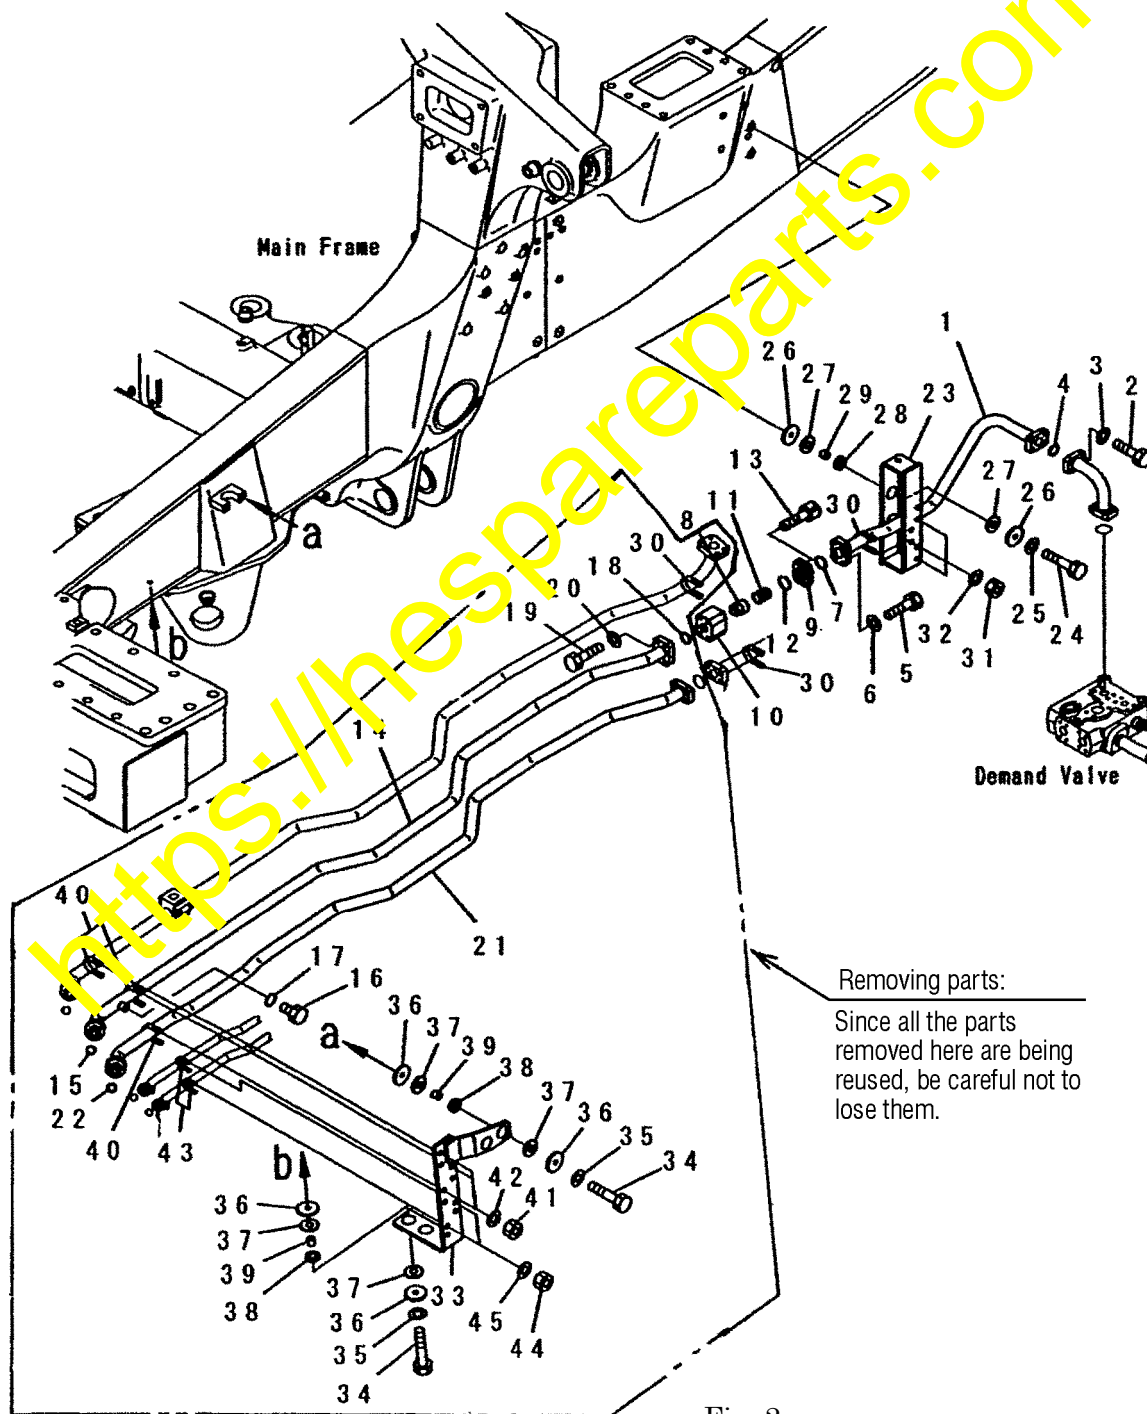
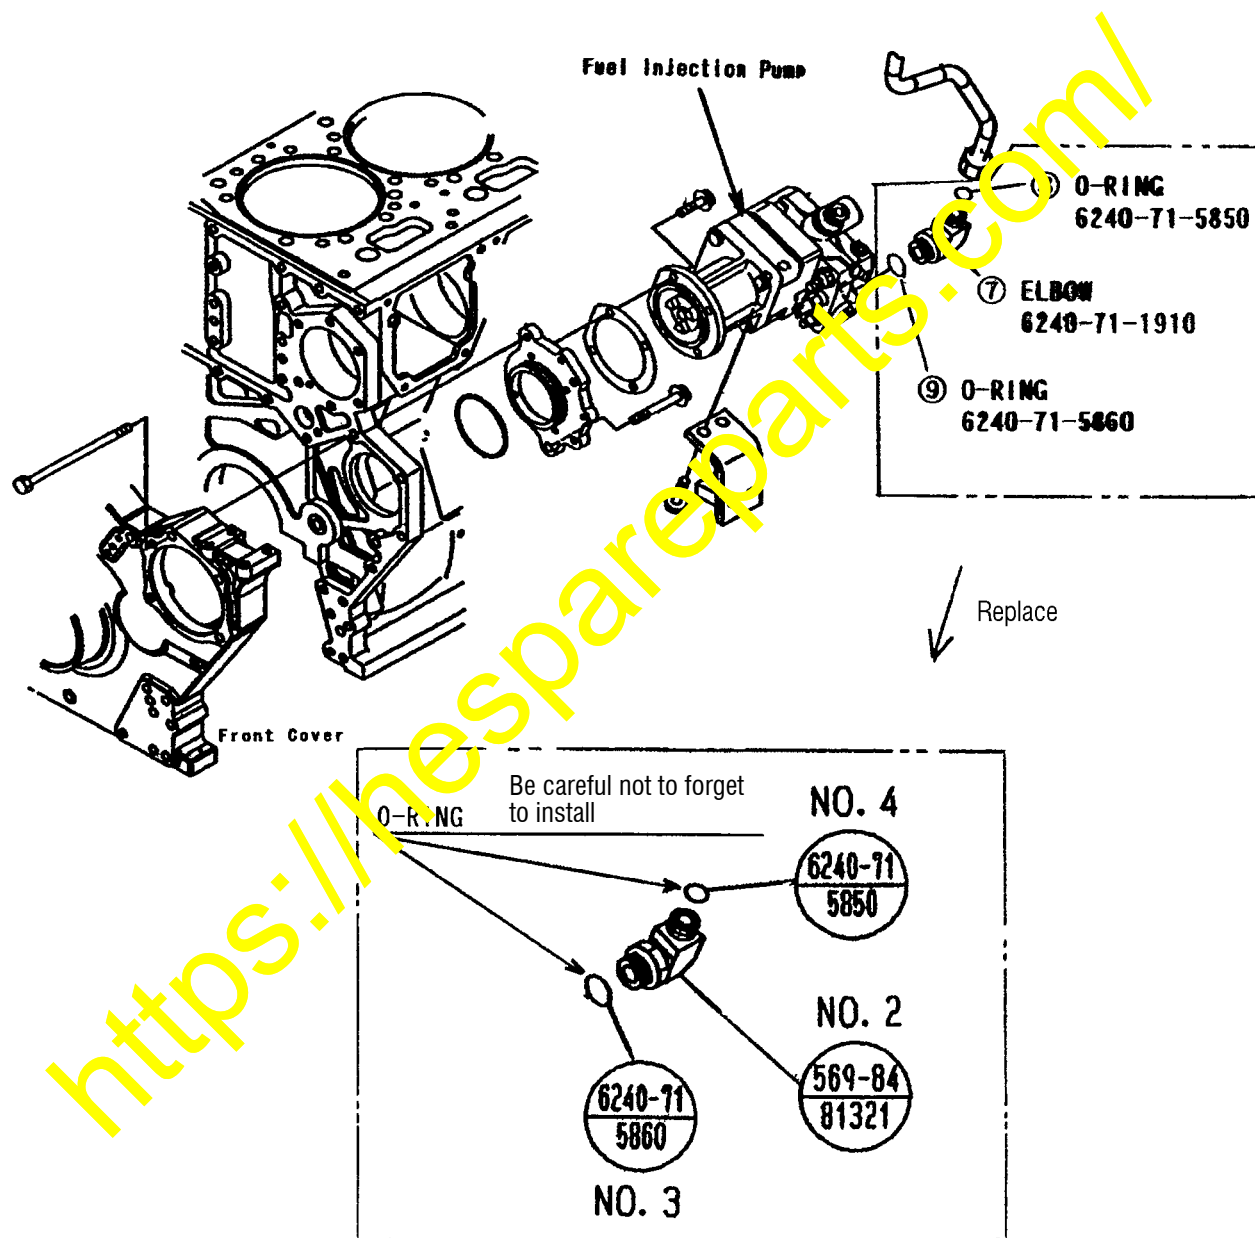

Fig. 2
Fig. 4
- (1) In preparation for carrying out the welding of the additional fuel filter mounting seat No. 1 (569-84-81380) on the LH outside of the front section of the main frame, remove the steering circuit hydraulic piping related parts. (Refer to Fig. 2.)
- (3) After the welding of the additional fuel filter mounting seat, restore the removed steering circuit hydraulic piping parts to their original states. At this time, be careful not to forget to install the O-rings. (Refer to Fig. 2.)
- (4) Add the oil to supply the quantity of the oil flowed out.
- (5) Replace the elbow of the suction port of the fuel injection pump with a new tee. (Refer to Fig. 4.)
- (3) Install the elbow No. 47 (6240-71-6740) to the tee No. 9 (6240-71-6112) at the suction port of the fuel injection pump which has been installed as per the instructions given in Fig. 4.